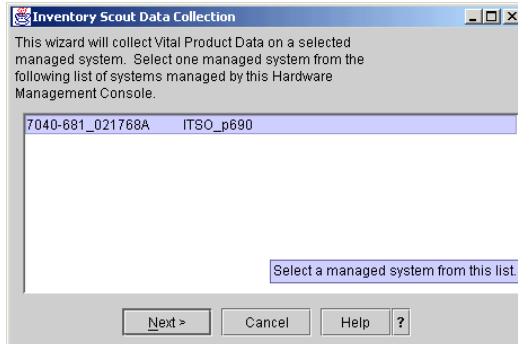

Figure 11-6 Initiate Inventory Scout Data Collection
2. Select the Collect VPD Information task in the Contents area. The Inventory Scout Data Collection window opens and displays all managed systems attached to the HMC, as shown in Figure 11-6 on page 253.